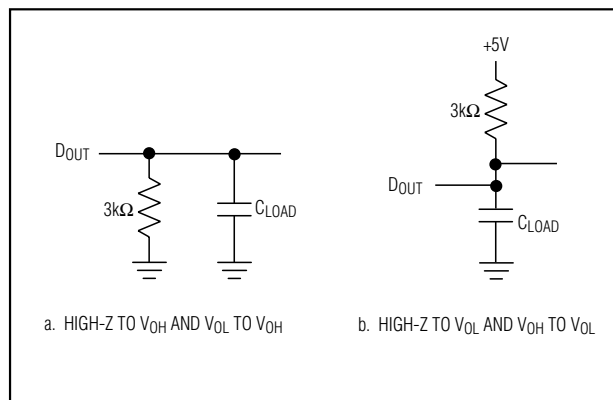

Figure 2. Load Circuits for Enable Time
- Note 12:** t_{DO} and t_{DO1} are measured with the load circuits of Figure 2 and defined as the time required for an output to cross 0.8V or 2.4V.